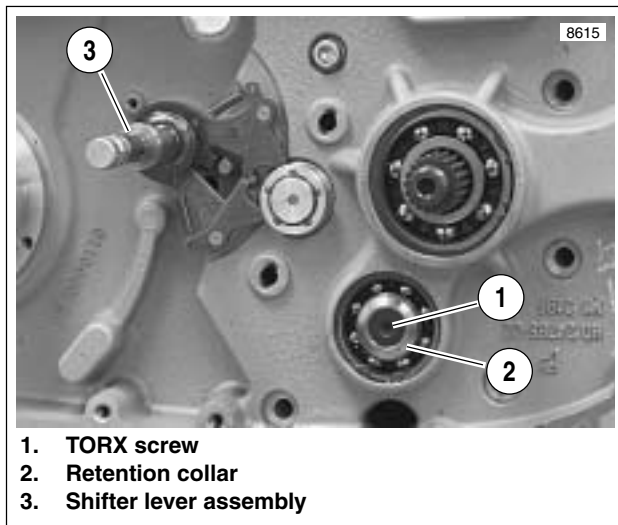

Figure 6-45. Countershaft Retainer
8. See Figure 6-45. Place transmission in 1st gear. Remove countershaft TORX screw (1) and retention collar (2).